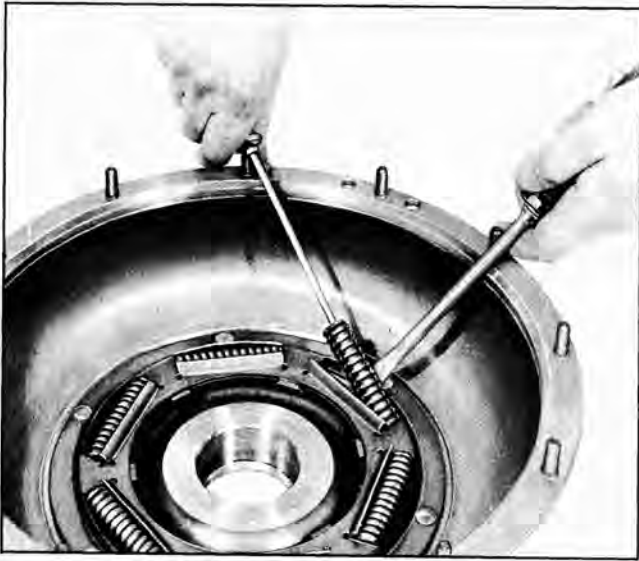

Fig. 171 Removing Torus Cover Damper Spring
b. Place second screwdriver under spring and pry out of cover (Fig. 171).